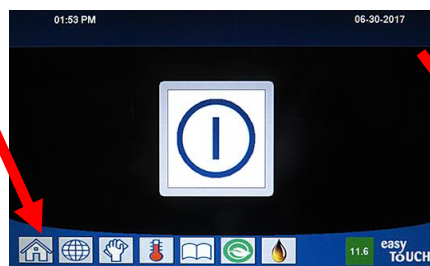

Figure 26
1. **WAIT FIVE (5) MINUTES** before proceeding to the next step.
2. Press the **"HOME"** button on the (see Figure 26).
12. Press the "HOME" button (see Figure 26) when finished.